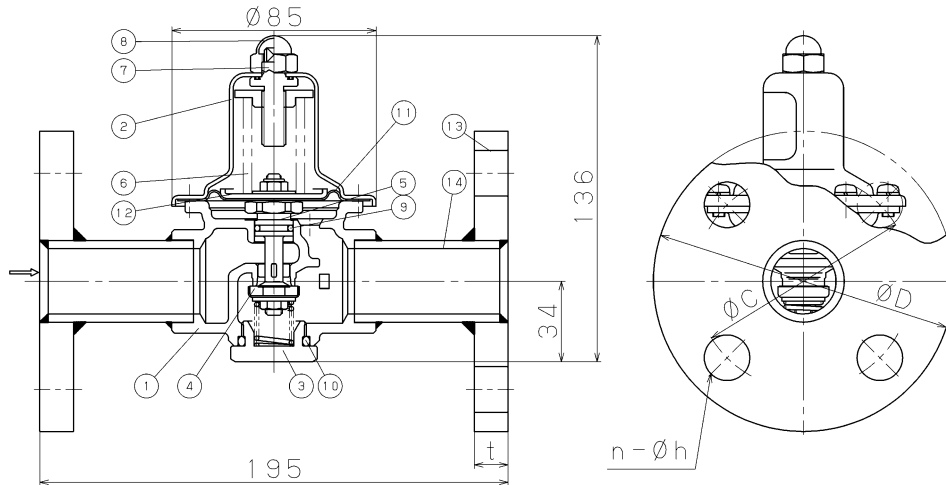

fig. 3
2.2 GD-43-10 Type, GD-43N-10 Type (Refer to fig. 3, table 3, and table 4.)